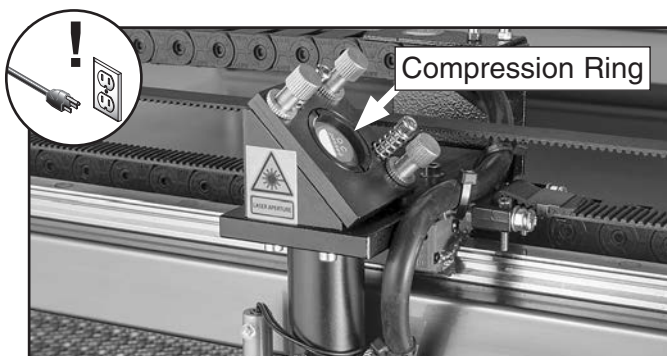

Figure 136. Typical compression ring location.
3. Locate compression ring on rear of mirror and remove with optics disassembly tool (see **Figure 136**).